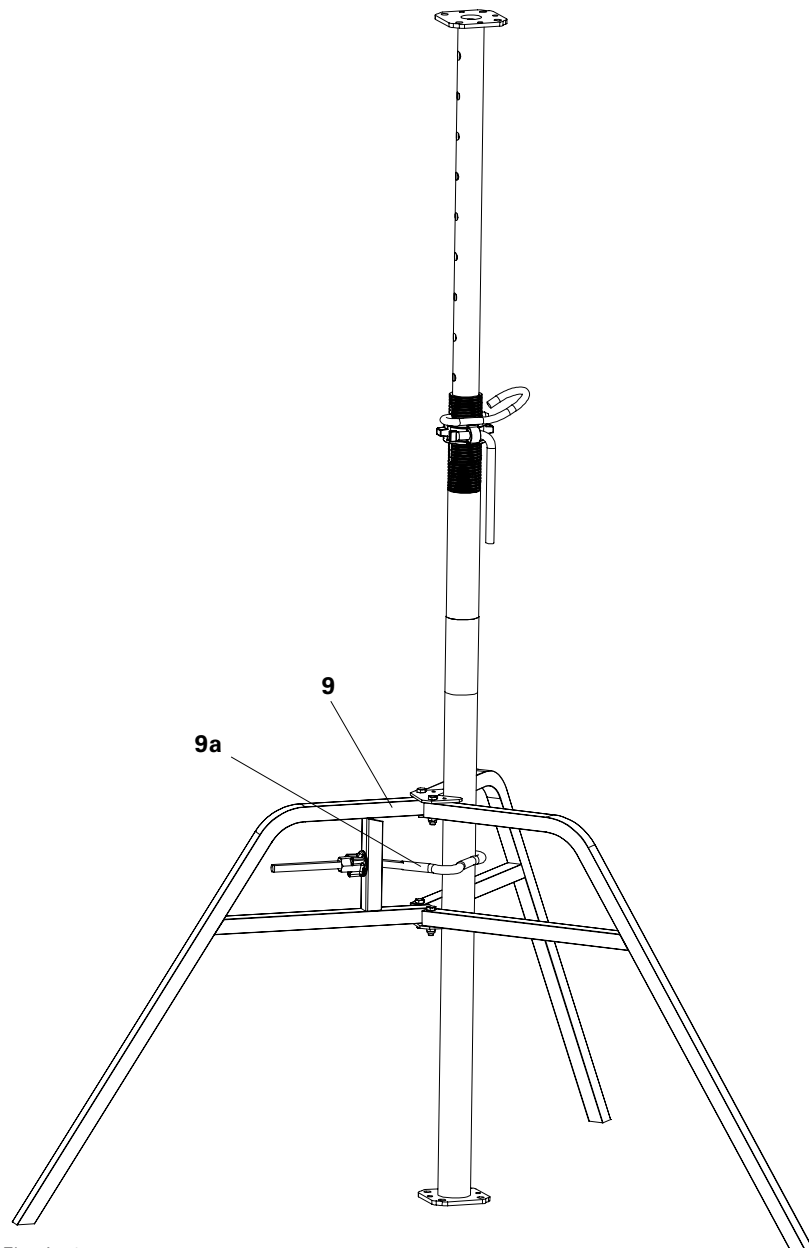

Fig. A1.04
1. Insert pre-assembled slab prop into the universal tripod (9). (Fig. A1.04)